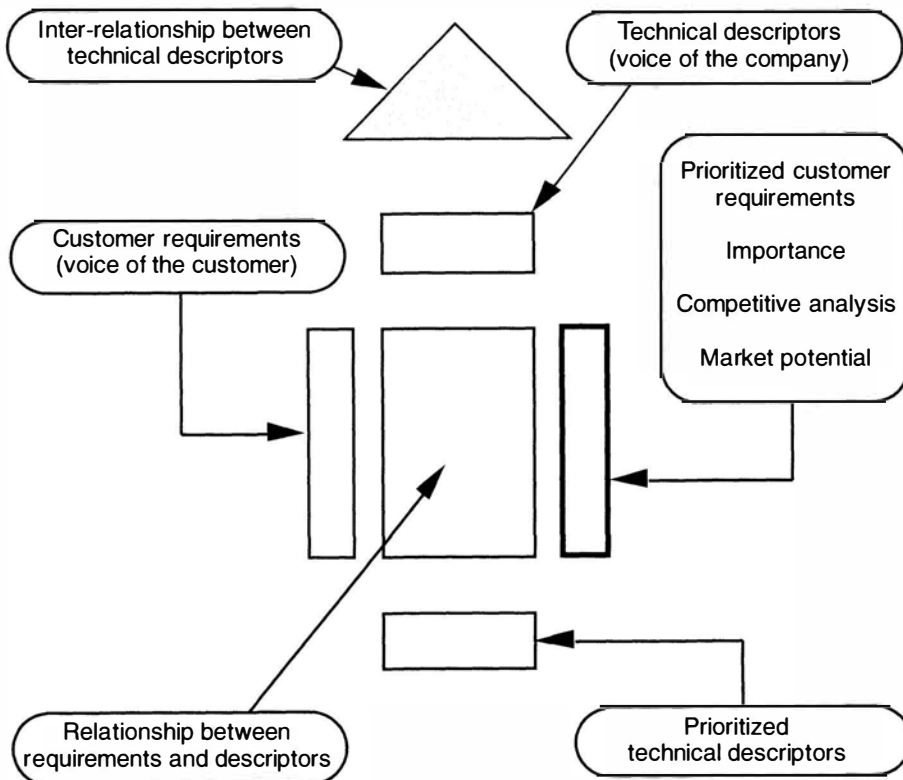

Figure 1 QFD matrix: the House of Quality
Figure 1 illustrates a typical QFD matrix, often called the 'House of Quality'. The left side of the matrix comprises customer requirements as described in (1) above. The top of the matrix shows the organization's requirements as described in (2). The right side of the matrix gives the planning considerations to produce the output. The roof of the house